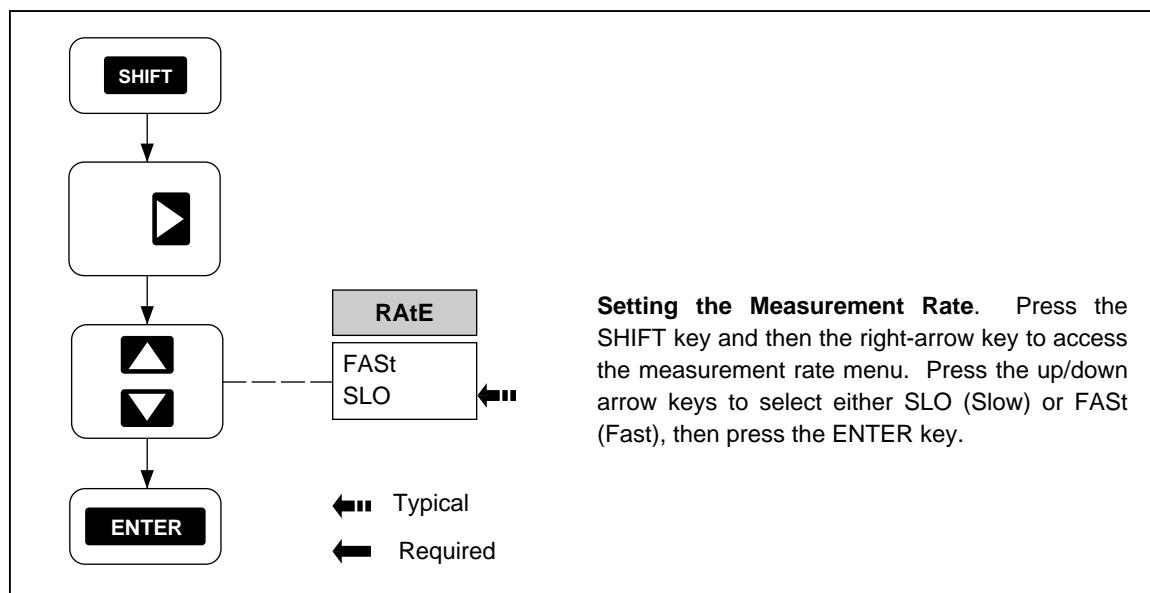

Figure 2-12. Setting the Measurement Rate
- Setting the Measurement Rate [Default - Slow] (Figure 2-12)
Perform the procedure in Figure 2-11 to set the time between starts of measurement scans. In preparation, the instrument must be in the inactive mode (not scanning or monitoring). To exit at any time (changes not saved), press the **CANCEL** key. The scanning interval format is HOURS:MINUTES:SECONDS. The minimum is 0:00:00 (continuous scanning [default]); the maximum is 9:99:99 (9 hours, 99 minutes, 99 seconds). The scan interval is divided into two portions: the measurement interval when measurements are actually taken, and the time-out interval that completes the overall scan duration. For example, if 10 channels can be measured in 8 seconds, and the scanning interval is set for 30 seconds, the first 8 seconds are used for measurement, while the remaining 22 seconds are used to time out. If the scanning interval is set to less than the measurement rate, the effect is continuous scanning. For example, if 10 channels can be measured in 8 seconds and the scanning interval is set for 5 seconds, scanning is continuous. To speed up the measurement rate, refer to Figure 2-12.
Perform the procedure in Figure 2-12 to set a fast or slow [default] measurement rate. The measurement rate affects the time required to scan the configured channels. However, the fast mode sacrifices one digit of measurement resolution. For example, a temperature reading of 22.4°C in the slow mode would become 22°C in the fast mode, or 27.858V dc in the slow mode would become 27.86 V dc in the fast mode. The fast mode is normally used to capture rapidly changing measurements or to speed up the measurement portion of the scan interval.